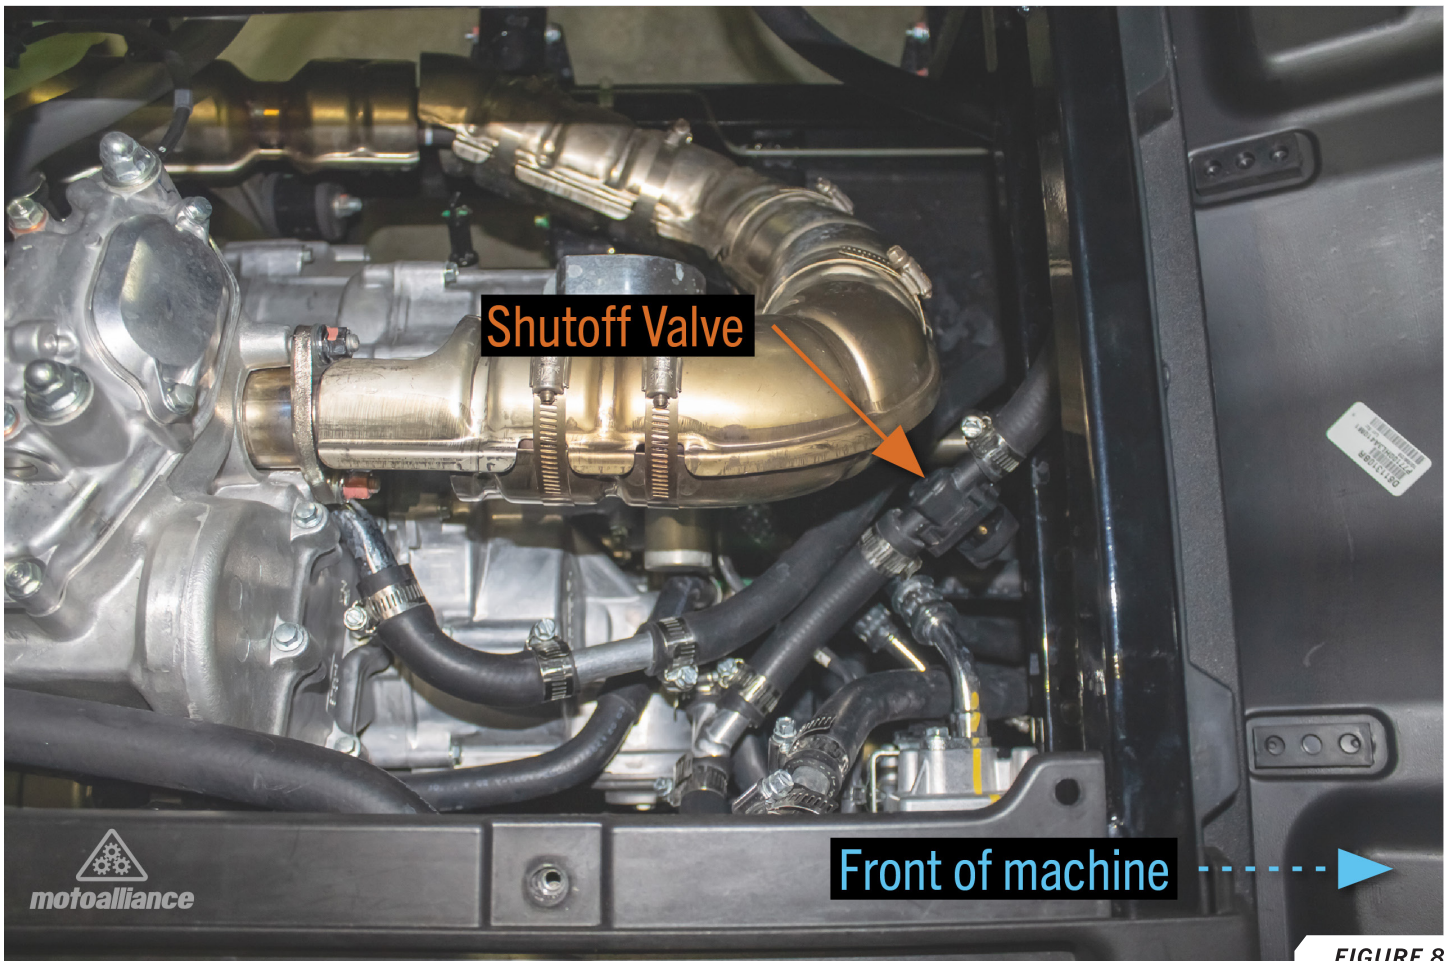

FIGURE 8
16. On the same radiator hose where you just installed a Y (step 15), make a cut in an accessible location, insert a shut-off valve, and secure using #10 hose clamps. **FIGURE 8**